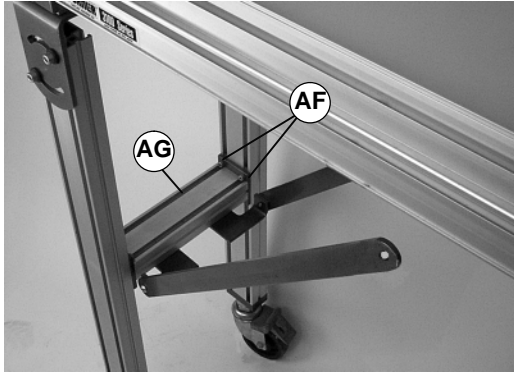

Figure 11
4. Repeat step 3 for left offset plate (AA).
5. Loosely attach brace bars (AC) to offset plates (Z & AA) with screws (AB).
6. If required, loosen eight (8) screws (AF of Figure 11) and re-locate crossmember (AG) to attach brace bar(s) to conveyor.